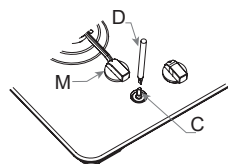

Fig. 4
2. Remove the control knobs "M" (Fig. 4).
3. Insert a small screwdriver “D” (Fig. 4) into the hole at the top of the tap “C” and turn the adjustment screw left or right until the flame of the burner is conveniently regulated to the low position.